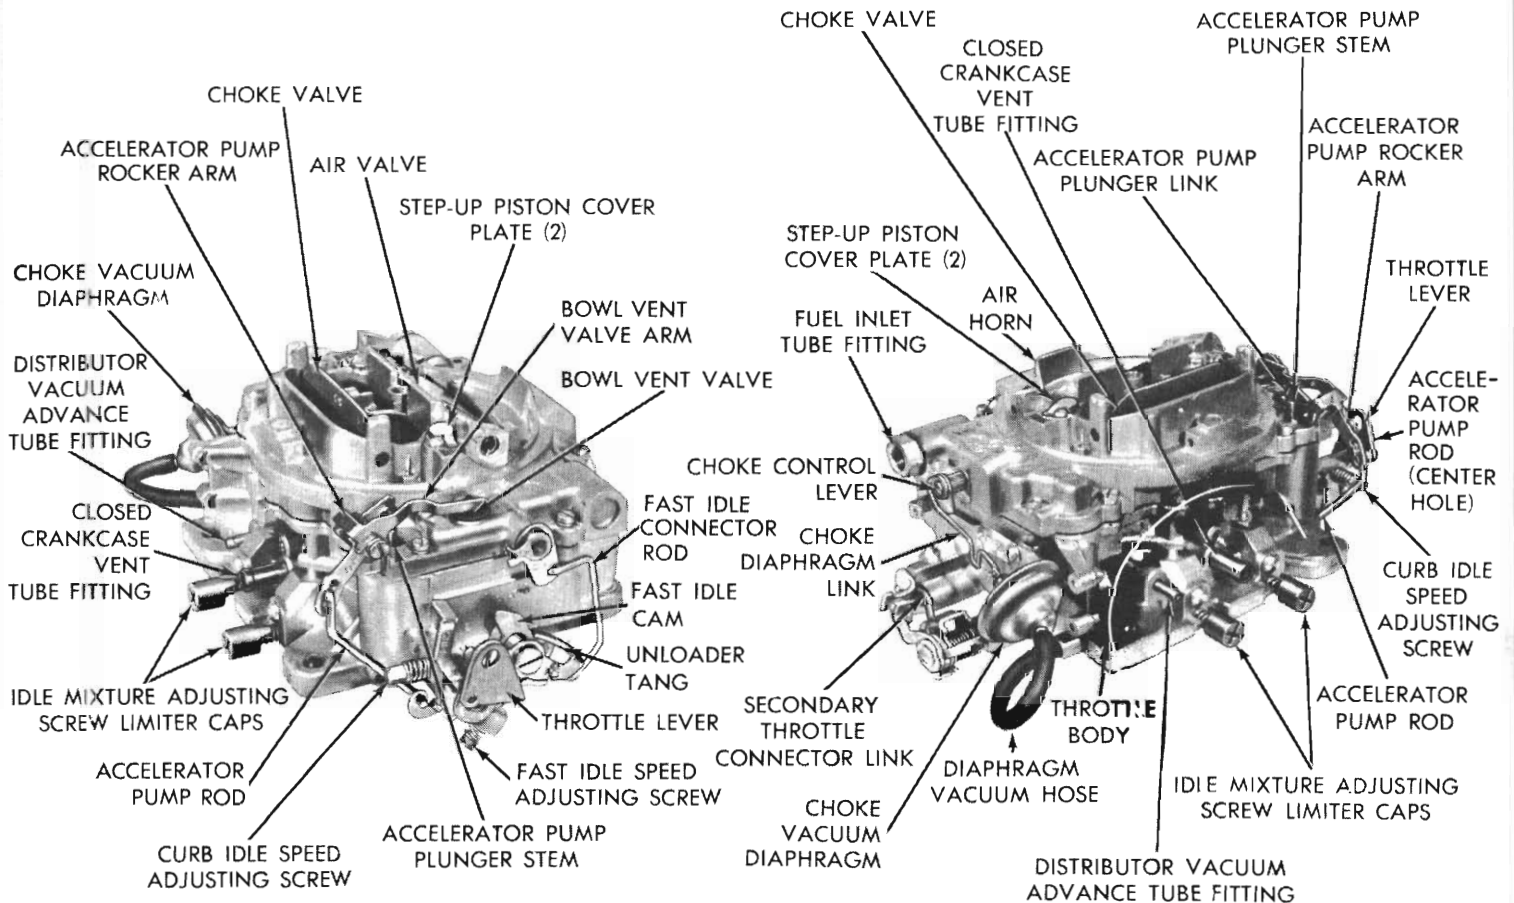
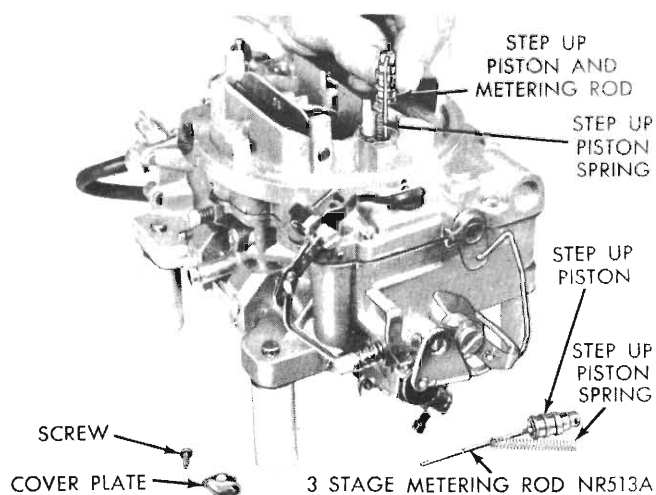

Fig. 1—Carburettor Assembly AVS
Fig. 2—Removing or Installing Step-Up Pistons and Rods
The Carter four barrel carburettor model AVS-4934S is used on the 340 cu. in. engine (Fig. 1).
## 2. DISASSEMBLING CARBURETTOR (Fig. 1)
(1) Place carburettor assembly on repair stand Tool E14C5. These tools are used to protect throttle valves from damage and to provide a suitable base for working.
(2) Remove hairpin clip that attaches fast idle connector rod to fast idle cam. Remove second spring clip. Disengage rod from cam then swing rod at an arc until it can be disengaged from choke operating lever.
(3) Remove hairpin clip that holds throttle connector rod in centre hole of accelerator pump arm. Disengage rod from arm and throttle lever, then remove from carburettor.
(4) Remove screws attaching step-up piston and rod cover plates. Hold cover down with a finger to prevent piston and rods from flying out. Lift off plates and slide step-up pistons and rods out of air horn (Fig. 2). Remove step-up piston springs.
(5) Remove vacuum hose between carburettor throttle body and vacuum diaphragm.
(6) Remove clip from choke operating link and disengage link from diaphragm plunger (stem) and choke lever (Fig. 1).
(7) Remove vacuum diaphragm and bracket assembly and place to one side to be cleaned as a special item. A liquid cleaner may damage diaphragm material.